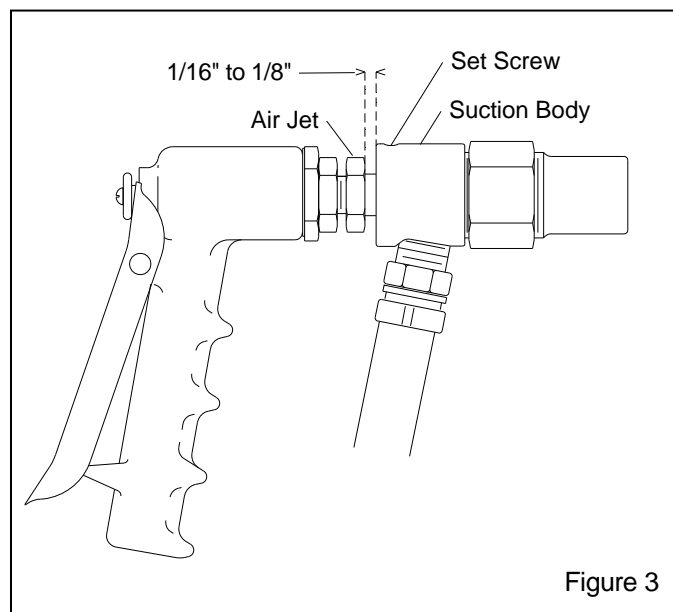

Figure 3
### 5.1 Air Jet, Figure 3
**5.1.1** Adjust the air jet by loosening the set screw in the suction body and moving the jet in or out of the body. This adjustment controls suction in the material hose. Maximum suction is obtained when the jet is 1/16" to 1/8" from full forward, as shown in Figure 3.